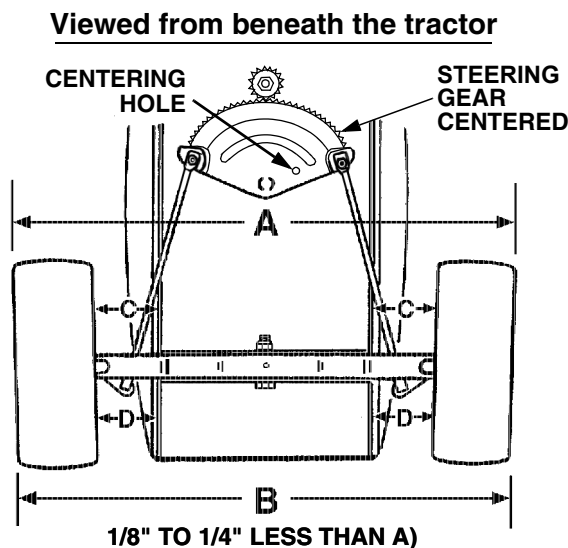

Figure 14
The front wheels should toe-in approximately 1/8 to 1/4 inch, as measured across dimensions A and B shown in Figure 14.
1. Check the steering gear to ensure it is in the centered position. The hole in the steering segment gear will align with the hole in the steering housing (See Figure 14).
3. Then measure the distance between the marks and the bottom edges of the tractor frame channels (See measurement D in Figure 14). These two measurements should be equal.
4. Rotate the marks to the rear *horizontal* diameter and again check that the steering is centered. Measure the distance between the marks and the frame (See measurement C in Figure 14). Measurement D should be approximately 1/16 to 1/8 inch less than measurement C on each side of the tractor.